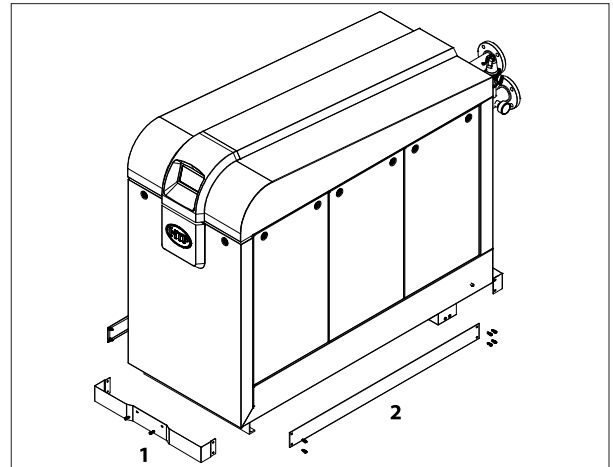

Figure 5 - 1500 - 2000 Models - Installing Decorative Skirts
1500 - 2000 Models ONLY - After the VWH has been installed level in the final location the decorative skirts may be installed. These can be found in the VWH cabinet. Use the included bolts to install the front skirt (1) before proceeding to the side skirts (2). See Figure 5.